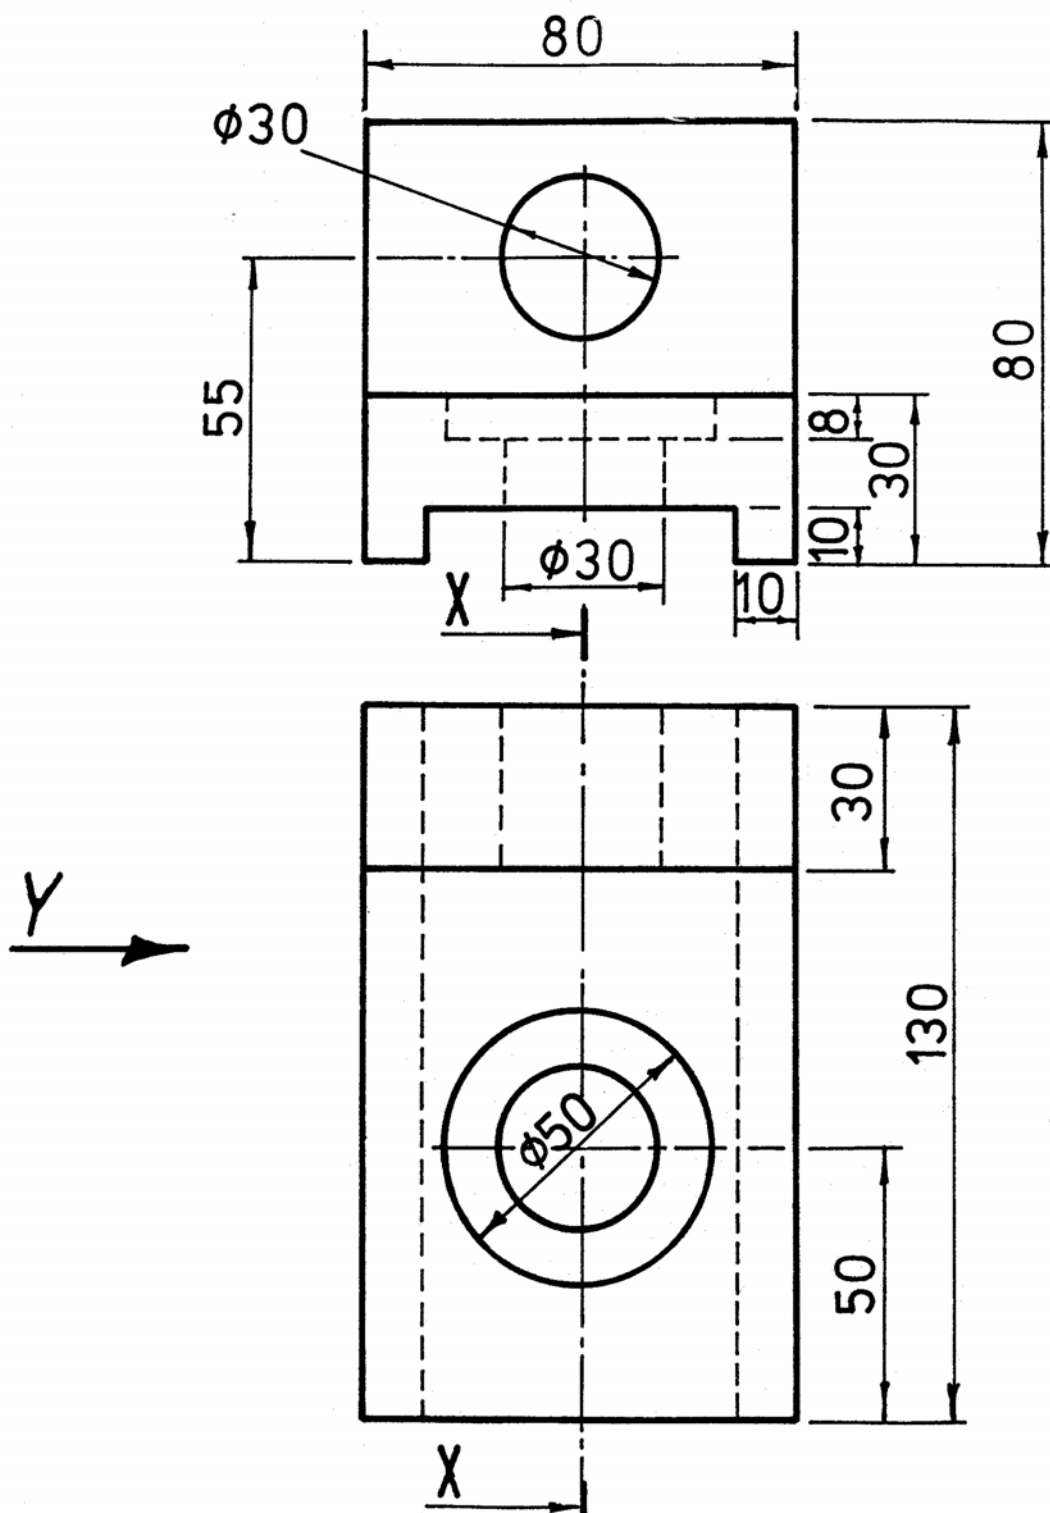

FIG. 6
- (a) Fig. 6 shows the plan and elevation of a machine part. Draw an isometric view of the part, sectioned on the plane XX, viewed in the direction of arrow Y.